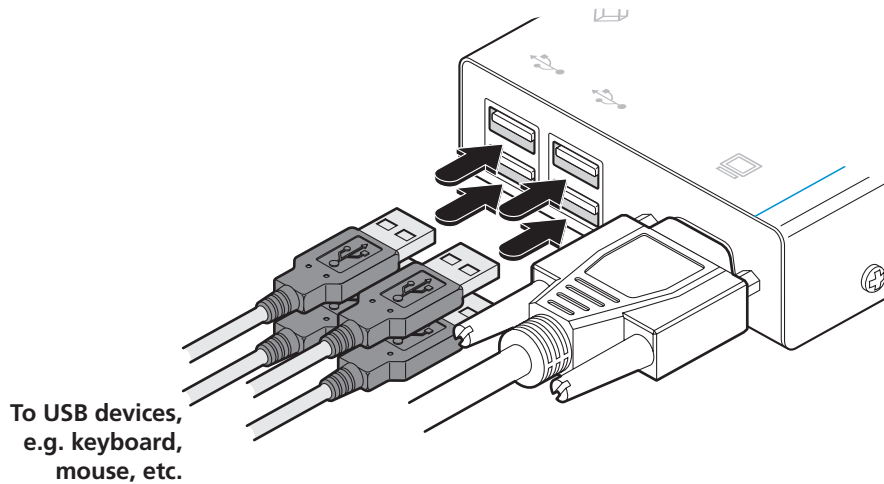

Figure 3-8. Attaching the keyboard and mouse USB cables
- 3 Attach the leads of up to four USB devices (two of which are usually a keyboard and mouse) to the sockets located adjacent to the video output connector as shown in Figure 3-8: